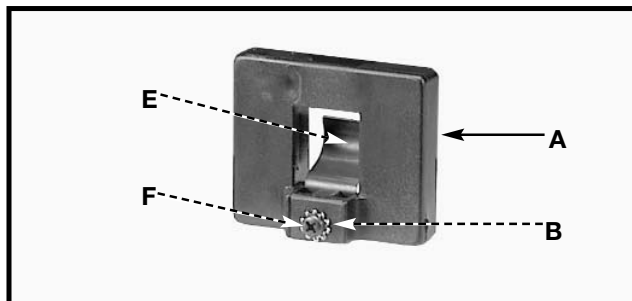
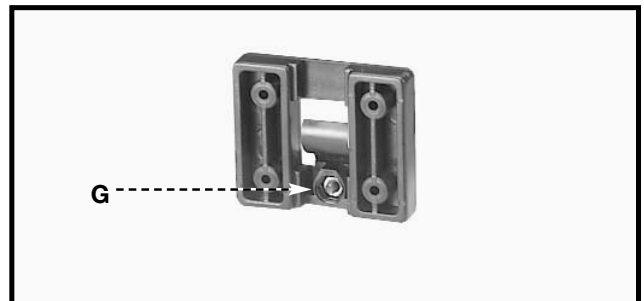

Fig. 19
Fig. 20
1. Attach the spring clip (E) Fig. 19 to the miter gauge holder (A) using an M4x.7x10mm pan head screw (F), 3/16" external tooth lockwasher, (B) and M4x.7 hex nut.
**NOTE:** The hex nut (G) Fig. 20 will fit into the recess at the back of the miter gauge holder (A) Fig. 19 to keep the spring clip (E) secured to the miter gauge holder.